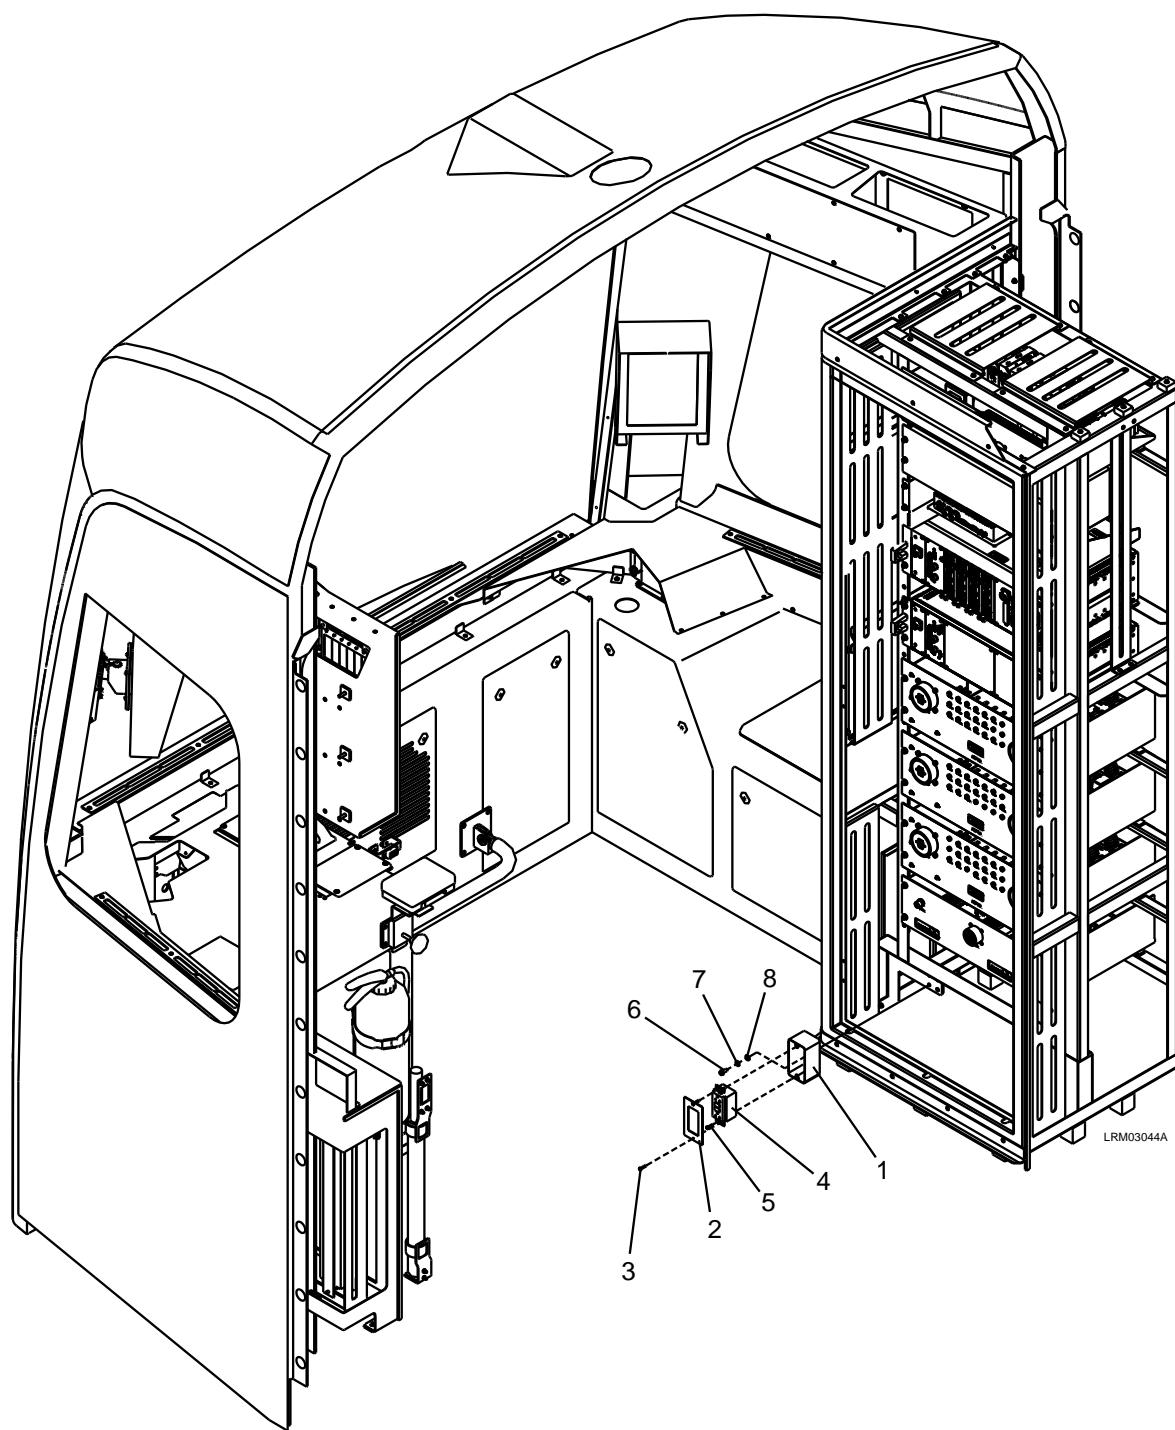

Figure 7-52: Convenience Outlet
1. Remove the two screws (3) that secure the face plate (2) to the receptacle (4) and remove the face plate (2). See Figure 7-52.
2. Remove the two screws (5) that secure the receptacle (4) to the gang box (1).
3. Carefully remove the receptacle (4) from the gang box (1) and disconnect the #10-32 wires.
4. Remove the two M6 x 16 screws (6), M6 lock washers (7), and M6 plain washers (8).
5. Carefully remove the gang box (1) pulling the wires through the grommet.